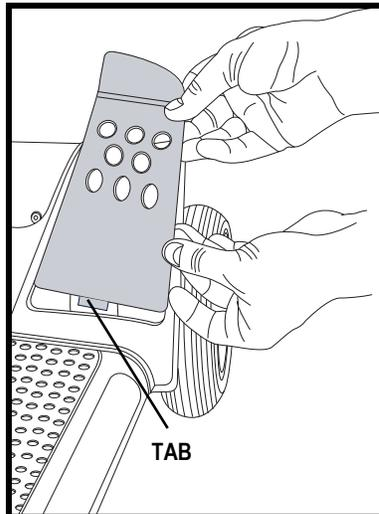

Figure 10. Front Fender Panel
2. Push through the hole to separate the piece from the Travel Scooter. See **figures 10 and 11**.
NOTE: When installing the front and rear fender panels, make sure the tab at the bottom of each panel is inserted into the tab opening before securing the panel. See **figure 10 and 11**.